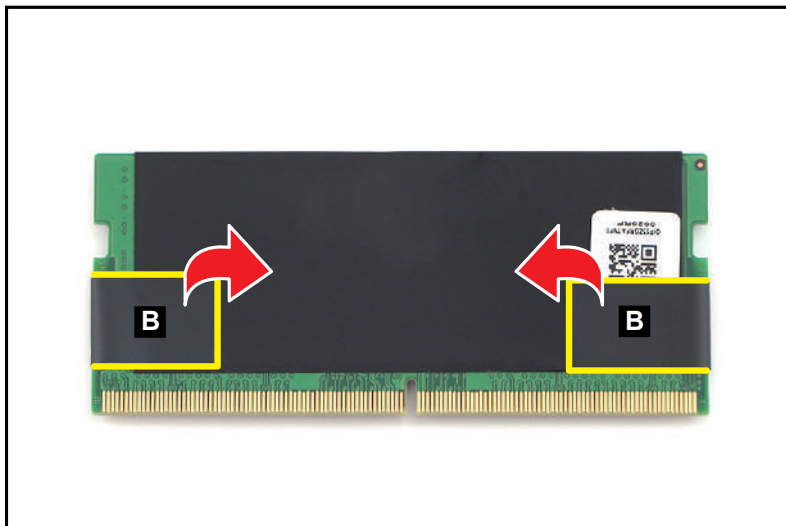

Figure 3-145. Replacing the DIMM Module
3. Fold the tabs (B) to secure the composite foil with thermal pad in place (Figure 3-145).